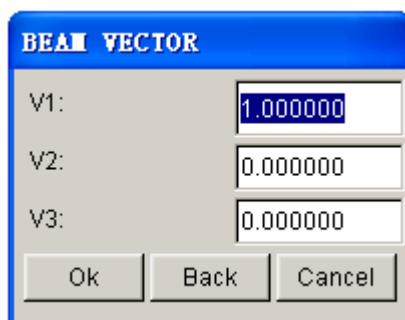

Figure 5.3.16 Beam Vector dialog box
- If the user selects ORIENTATION VECTOR, the dialog box as illustrated in Figure 5.3.16 is displayed. This window prompts the user to define the orientation vector.